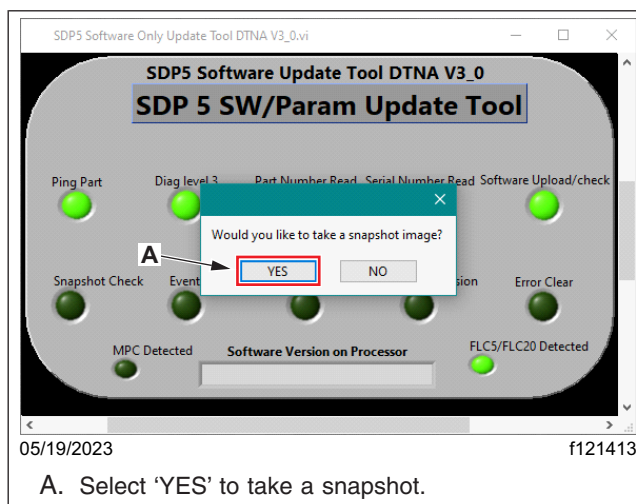

Fig. 26, Taking a Snapshot with the FLC5 Camera
13. Once the software update is complete, a pop-up window saying 'Would you like to take a snapshot image?' appears. See Fig. 26.